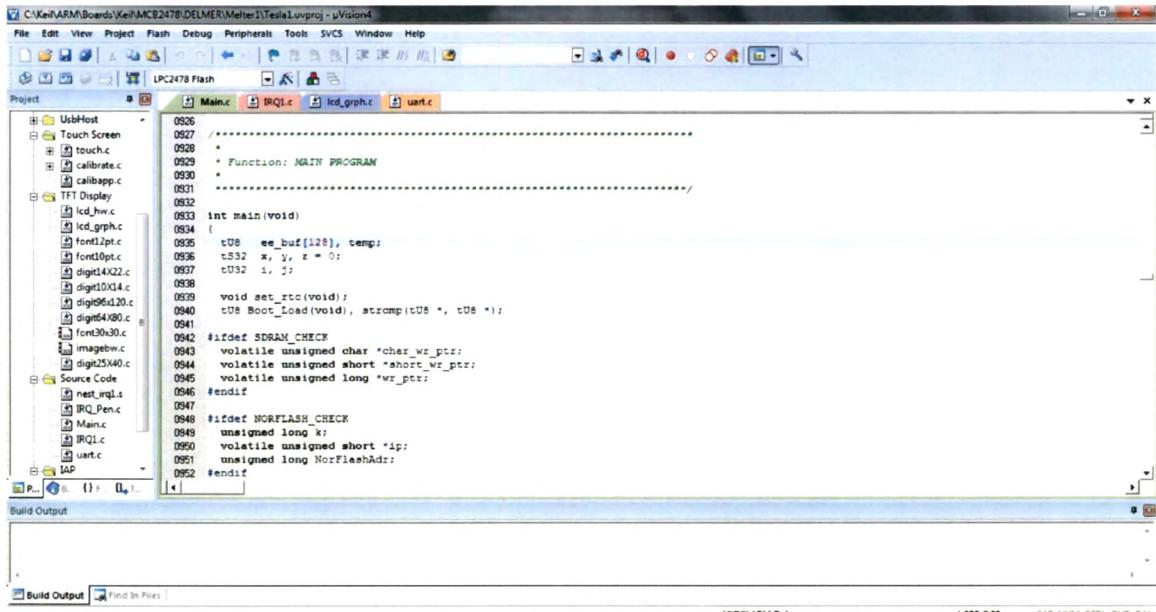

Figure A-5 Project Creation with Different groups
- Add groups as shown in the Figure A-5 and add c files and distribute whole program into different groups & files.